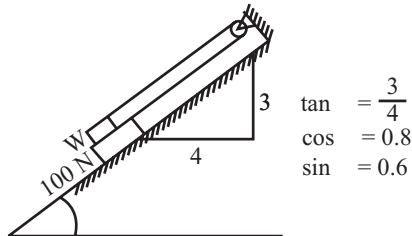

Fig 11.27
Q.31: In the fig 11.27, the coefficient of friction is 0.2 between the rope and the fixed pulley, and between other surface of contact, $\mu = 0.3$. Determine the minimum weight W to prevent the downward motion of the 100N body.